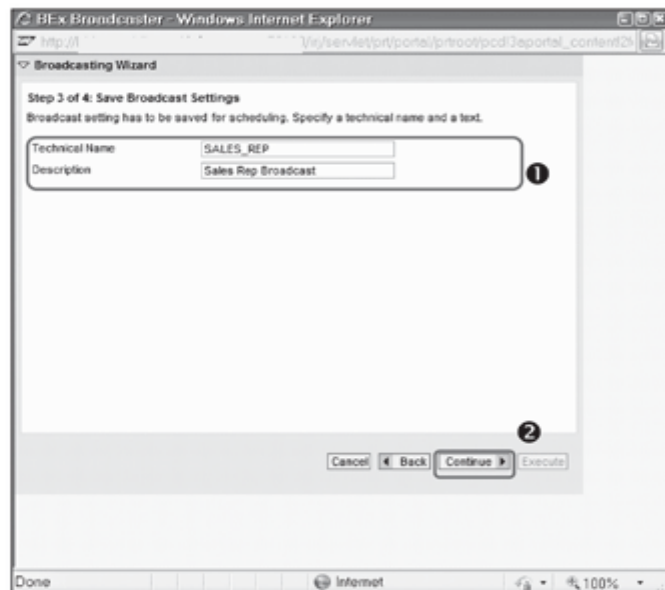

Figure 10.64 BEx Broadcaster: Save Broadcast Settings
4. If this is a one-time broadcast, you can execute this setting directly from this screen using the Execute button (2). Click on the Continue button (3) if you want to save this setting for future use or want to schedule it to be executed automatically at some predefined time.
5. Save the broadcasting settings by providing a Technical Name and Description (1 of Figure 10.64), and click on Continue to proceed to the next screen (2).